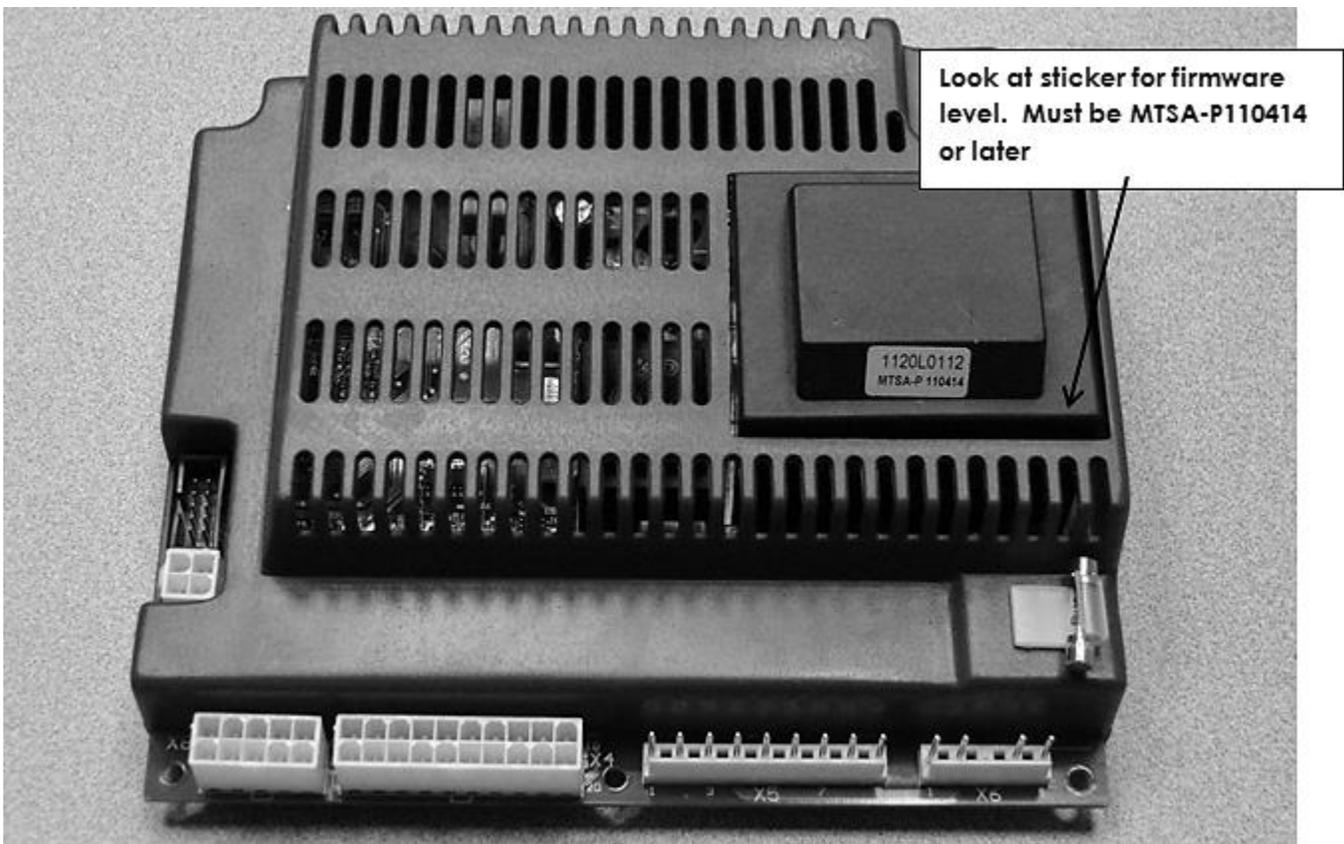

Figure 1 – Controller Revision Label Location
2. HTP Modbus adapter (this kit), and an HTP appliance/water heater equipped with a control with firmware revision MTSA-P110414 or greater. To determine whether your product is compatible with this adapter, refer to Figure 1.